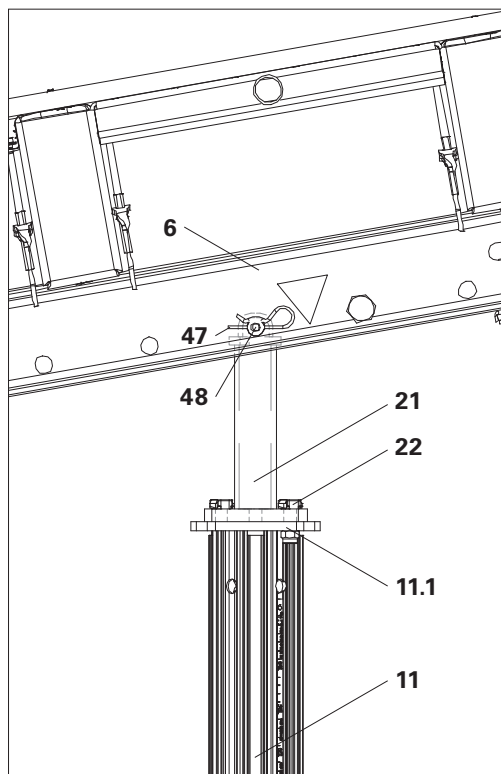

Fig. B1.20
The Compression Brace Head MP/SRU is used for supporting inclined-positioned slab tables. (Fig. B1.20)
1. Secure Compression Brace Head MP/SRU (21) diagonally on the end plate (11.1) of the MULTIPROP MP (11) by means of 2x MULTIPROP bolts with nuts (22). (Fig. B1.20)
2. Spindle out MULTIPROP MP (11) to required length.
3. Mount Compression Brace Head MP/SRU on the Steel Waler SRU U120 (6) using Fitting Pin  $\varnothing 21 \times 120$  (48) and secure with Cotter Pin 4/1 (47).